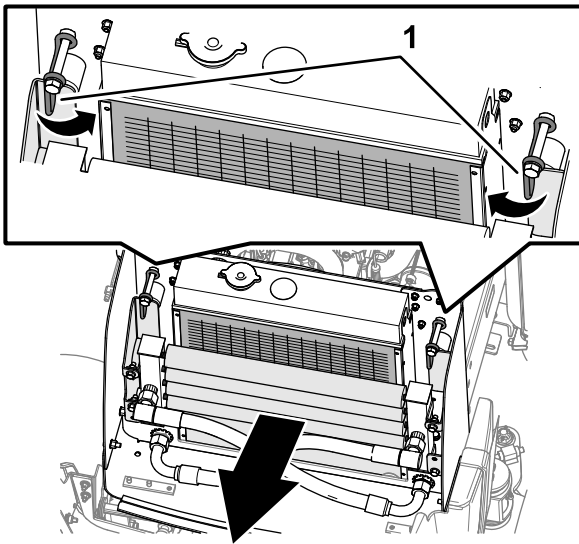
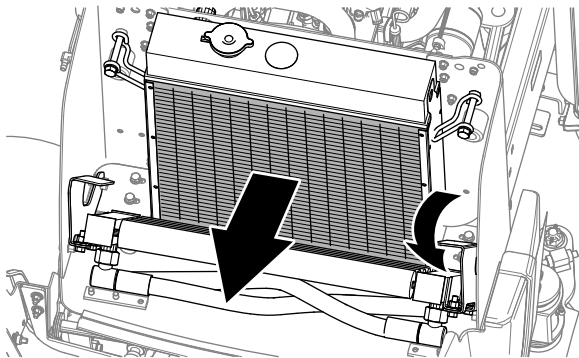

Figure 80
Figure 81
6. Clean the oil cooler with low-pressure (50 psi) compressed air (Figure 80).
7. Rotate the oil cooler latches inward, and pivot the oil cooler (Figure 80 and Figure 81).
8. Working from the fan side of the radiator , blow out debris with low-pressure (50 psi) compressed air (Figure 81). Repeat this step at the front of the radiator, and again from the fan side. Thoroughly clean both sides of the oil cooler.